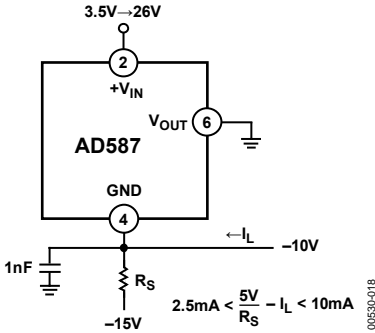

Figure 17. AD587 as a Negative 10 V Reference
The AD587 can be used as shown in Figure 17 to provide a precision -10.000 V output. The +VIN pin is tied to at least a +3.5 V supply, the output pin is grounded, and the AD587 ground pin is connected through a resistor (RS) to a -15 V supply. The -10 V output is taken from the ground pin (Pin 4) instead of VOUT. It is essential to arrange the output load and the supply resistor (RS) so that the net current through the AD587 is between 2.5 mA and 10.0 mA (RS should be kept below 1 kΩ). The temperature characteristics and long-term stability of the device is essentially the same as that of a unit used in the standard 10 V output configuration.